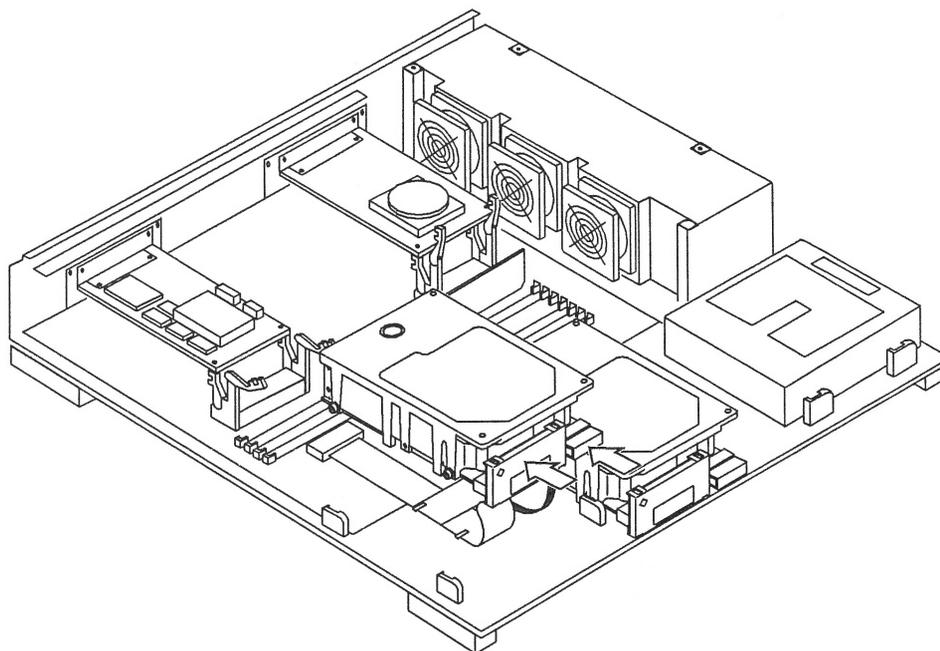

Figure 3-12 Connecting the Drive and the internal Cables
5. **Hold the drive in one hand and attach both the data cable connector and the power cord connector to the drive with the other hand. Refer to Figure 3-12.**